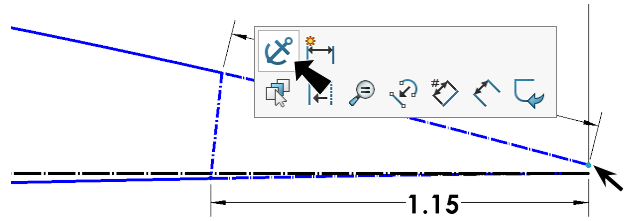

Fig. 35
Step 22. Click **top spline most rear endpoint** (trimmed construction spline) and click **Make Fixed**  on the context toolbar, **Fig. 35**. This will fully define sketch.